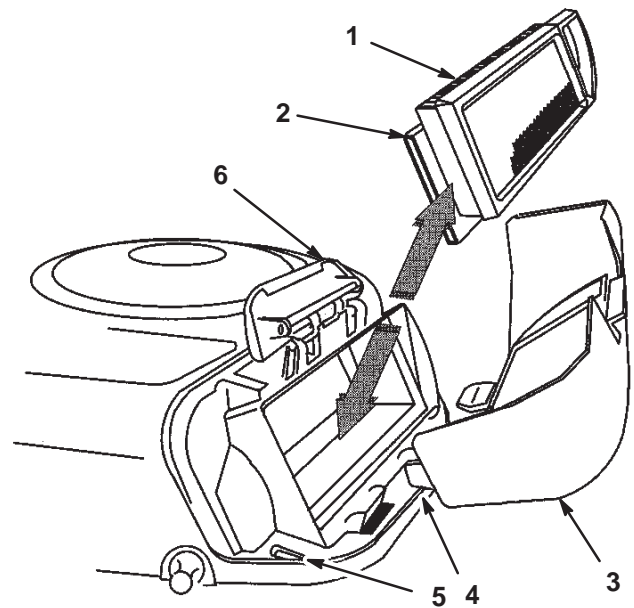

Figure 34
4. Carefully slide the paper element and the foam element from the blower housing (Fig. 34).
2. Align the tabs on the air cleaner cover with the slots of the blower housing (Fig. 34). Hook the handle onto the cover and press down on the handle to lock the cover in place.